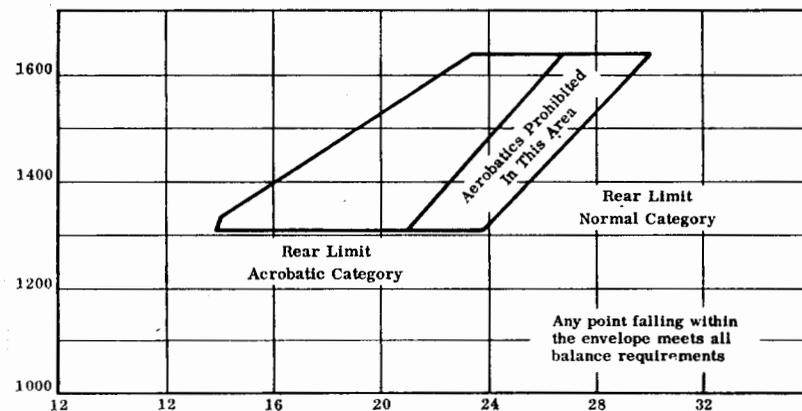

Figure 2.
6. Using the center-of-gravity envelope of figure 2, draw a horizontal line through the total airplane weight and a vertical line through the total airplane moment. The intersection of these lines represents the loading point. Since this point is within the envelope and is not in the "aerobatics prohibited" area, the loading is satisfactory.